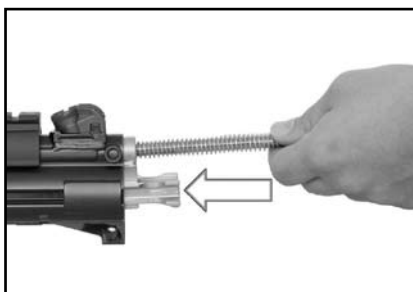

Fig. 43 – Insert bolt group and
4. Insert bolt group and recoil spring into receiver from the rear (Fig. 43).